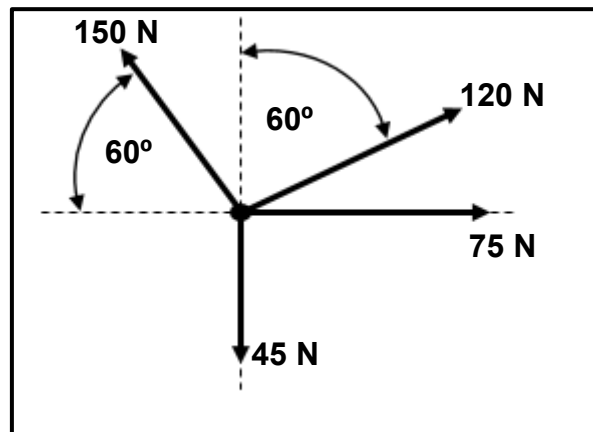

FIGURE 8.1
- 8.1 FIGURE 8.1 below shows a system of forces with four pulling forces acting onto the same point.
HINT: Draw and complete the diagram in FIGURE 8.1. Show ALL the horizontal and vertical components before you do the calculations.